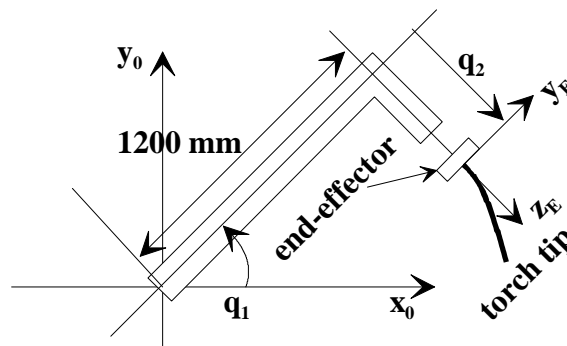

Figure 2
2. Figure 2 shows a planar robot with the 1st joint rotational (about z_0) and the 2nd joint translational. The first joint has no joint limits while the 2nd joint has a motion range $100 \text{ mm} \leq q_2 \leq 1000 \text{ mm}$. A welding torch is rigidly attached to the end-effector as shown. The tip of the torch is at location $(0, -10, 30)$. The torch weighs 20 N with its center of gravity at $(0, -5, 15)$. All these coordinates are with respect to Frame E.